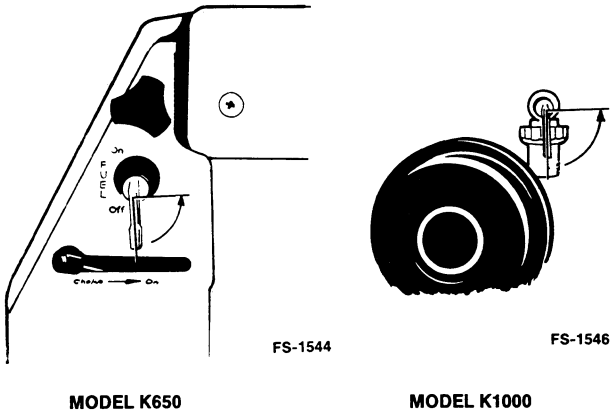

FIGURE 9. CLOSING FUEL VALVE
4. Close the fuel valve (Figure 9).